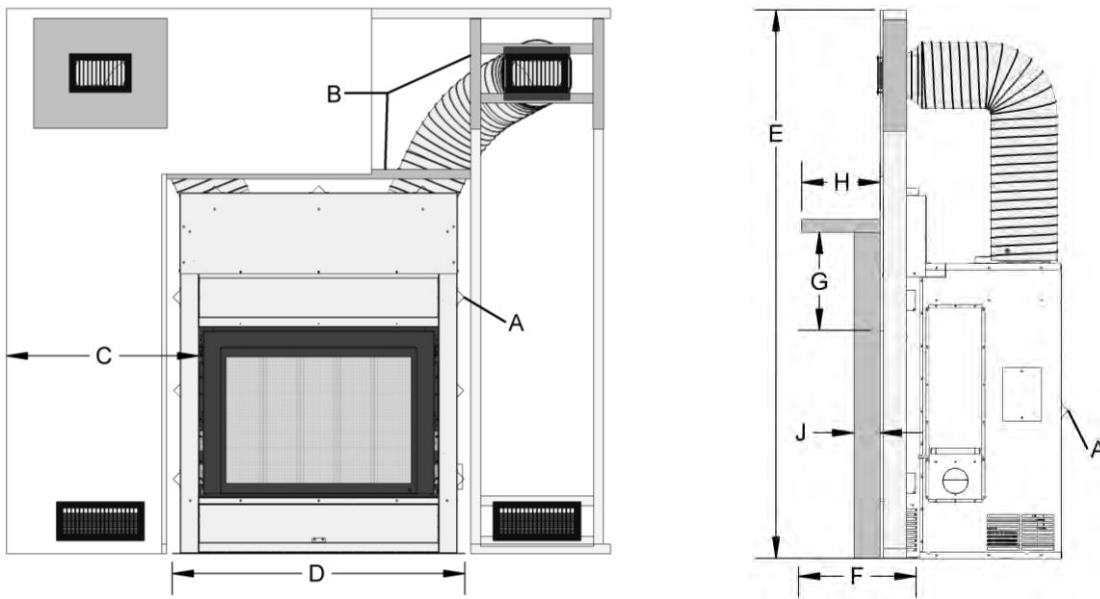
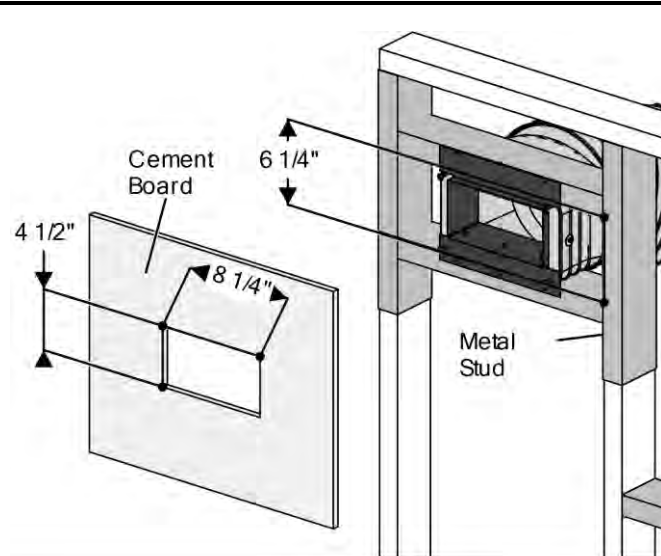
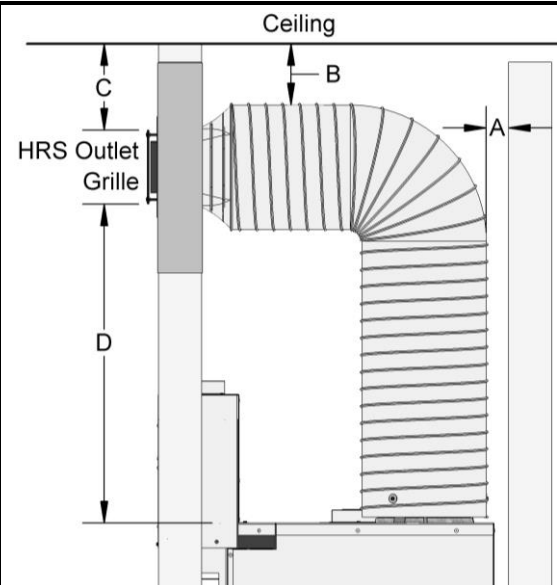

FIGURE 12 FIREPLACE CLEARANCES (SEE TABLE 2)
FIGURE 15 HRS HOT AIR OUTLET ROUGH OPENING
FIGURE 16 HRS OUTLET CLEARANCES (SEE TABLE 3)
COMBUSTIBLE FRAMING IS NOT PERMITTED IN THE SPACE DIRECTLY ABOVE THE FIREPLACE. THE ONLY EXCEPTION IS FOR FRAMING USED TO SUPPORT THE FACING MATERIAL AND MANTEL BUT SOME RESTRICTIONS APPLY, SEE FIGURE 12, FIGURE 15, TABLE 2 AND TABLE 3 .
Framing for the grilles and wall finish material around the Hot Air Outlet Grilles must be non-combustible (e.g. metal studs and cement board). Refer to Figure 15.
3. Using metal studs, frame the location you wish to mount the hot air outlets (see Figure 15). Make sure to respect all required clearances, see Figure 16 and Table 3.